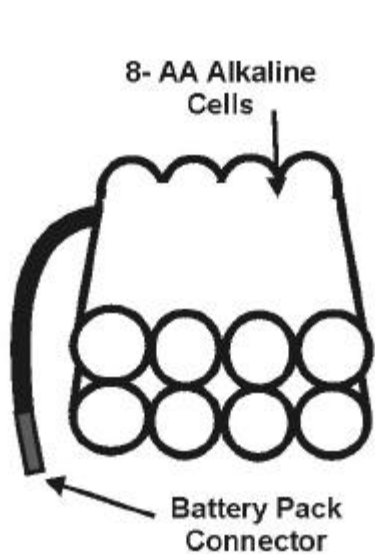
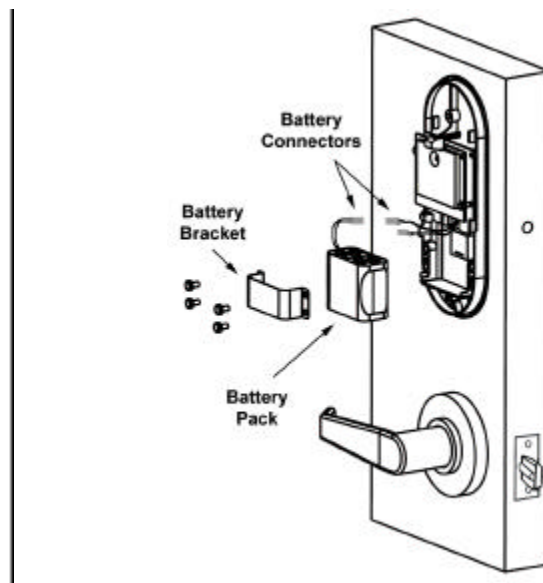

Figure 2-34 – MIRL Battery Pack
Figure 2-35 – MIRL Battery Pack Installation
2.20.1 Install the new Battery Pack (Figure 2-34), install the Battery Bracket, and connect the Battery Pack (Figure 2-35).